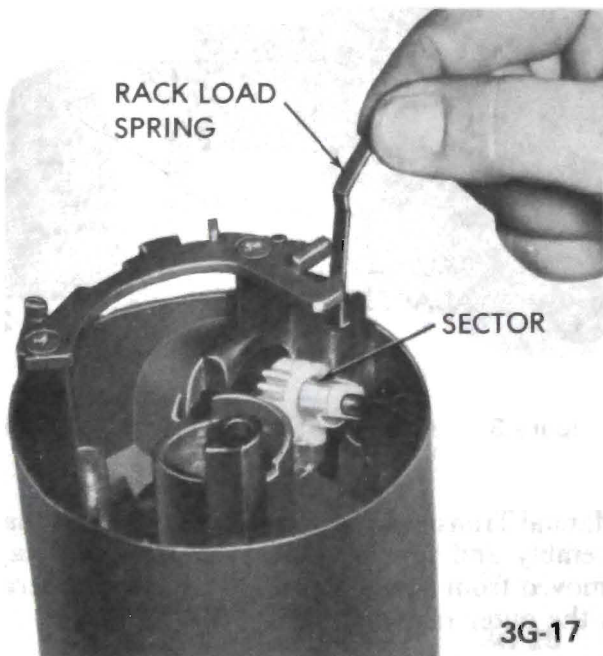

Figure 3G-37 Removing or Installing Load Spring
16. Remove thrust cup. See Figure 3G-35.